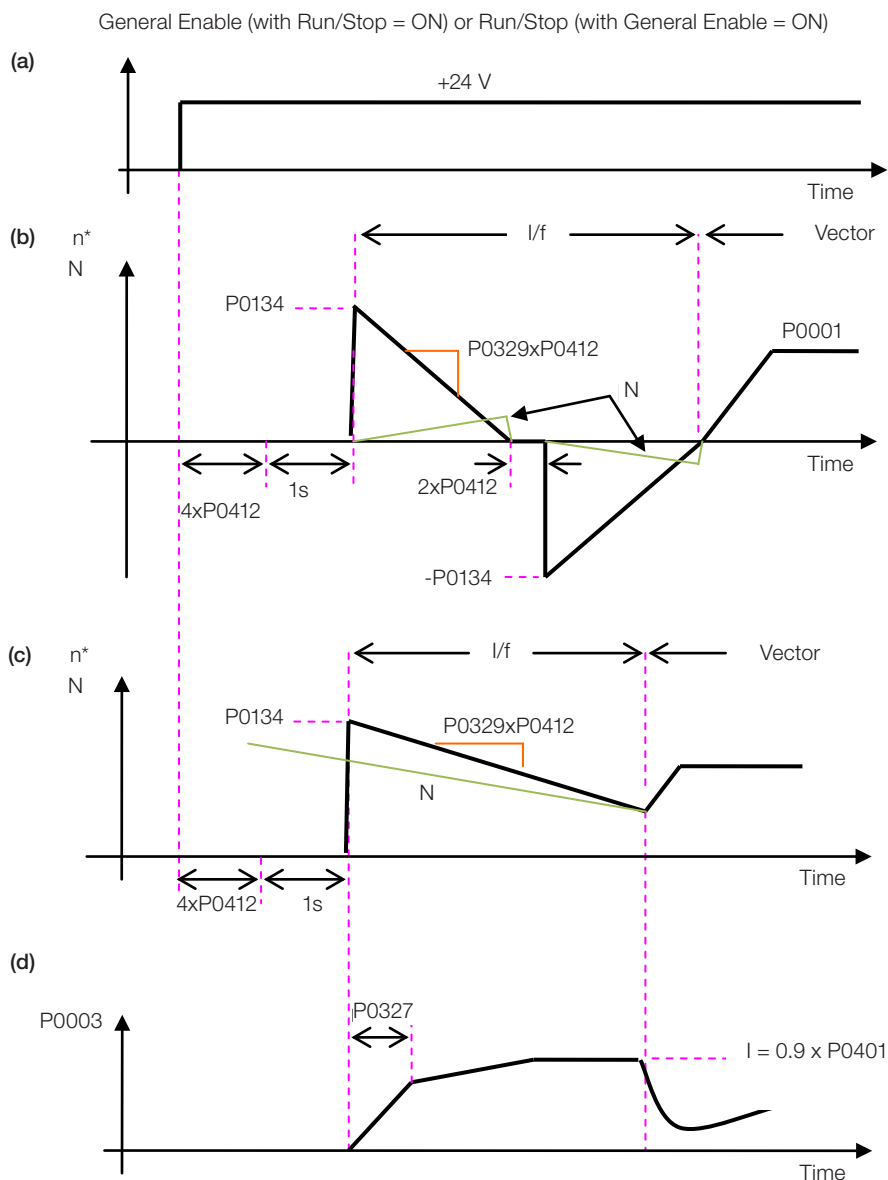

Figure 13.3: (a) to (d) Influence of P0327 and P0329 during Flying Start
The behavior of the Flying Start function (FS) in the sensorless mode during acceleration and reacceleration can be understood from the Figure 13.3 on page 13-8.
The Figure 13.3 on page 13-8 shows the behavior of the speed reference when the FS function is started with stopped motor shaft and small P0329 value (not optimized).
The Figure 13.3 on page 13-8 shows the speed reference when the FS function is initiated with the motor shaft already running in the desired direction, or with stopped shaft and an already optimized P0329.